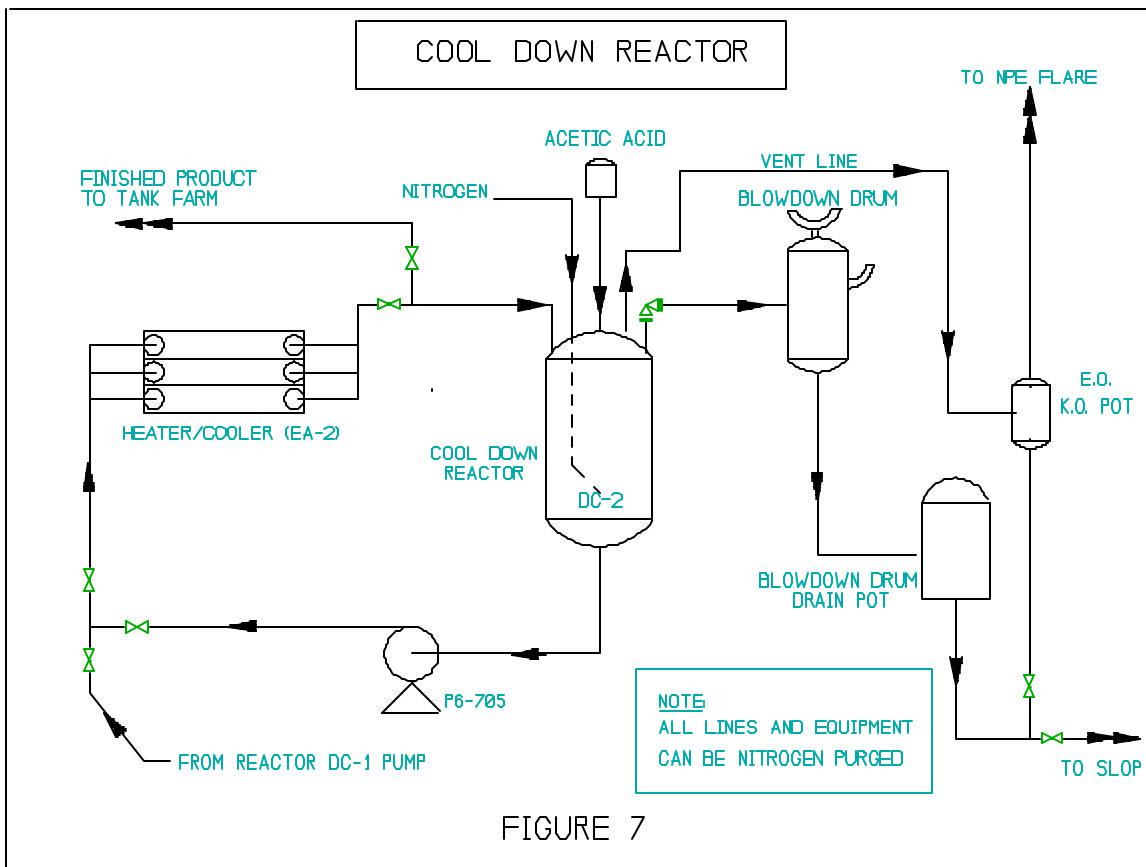

FIGURE 7
4.2 The **EQUIPMENT DESCRIPTIONS** that follow describe basic flow patterns and dimensional data for the Cool Down Reactor system. The nitrogen system is not shown on drawing (Figure 7) for clarity. Nitrogen purge, however, is readily available to all major Reactor lines and equipment systems.